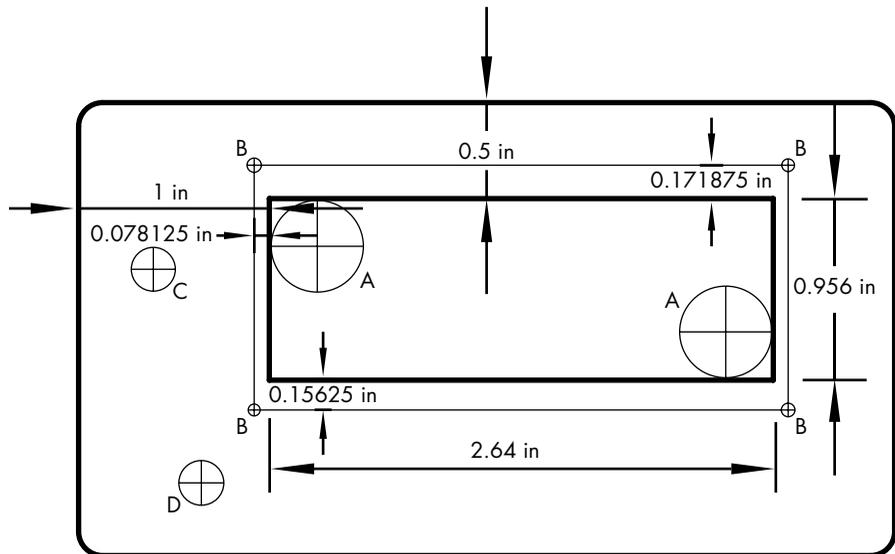

Figure 8-10: Template for holes and display for the Chronograph Lite
Figure 8-10 shows the template for the enclosure. You can download a PDF of this drawing from <https://www.nostarch.com/arduinoplayground/> and use it to mark and center punch the enclosure for the holes.
1. Carefully mark, center punch, and drill 1/2-inch holes for the corners of the display (A), 1/8-inch holes for the mounting holes for the display (B), 1/4-inch holes for the on/off switch (C), and 1/4-inch holes for the clear switch (D).
2. For the LCD screen, mark the edges of the 1/2-inch holes (A). Draw lines connecting the edges so you have a rectangle to cut out. (You can use a Sharpie marker and clean excess markings later with alcohol.) Drill the holes and cut the opening along those lines using a keyhole or saber saw.
3. There's a slight protrusion in the middle of the LCD on the right-hand side (facing up); this is part of the backlight assembly. You can cut a hole to accommodate for this, as I did in Figure 8-10, or you can leave the edge straight and use spacers to keep the protrusion from hitting the enclosure.